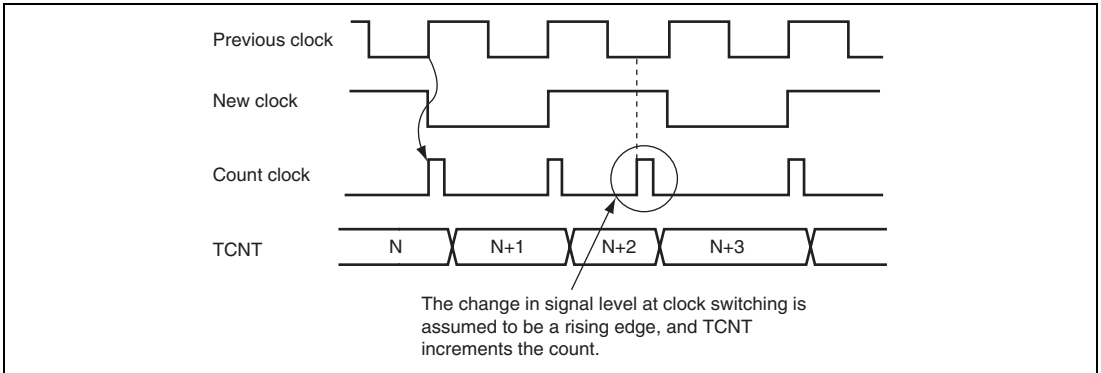

Figure 13.25 Internal Clock Switching and TCNT Operation
3. Depending on the timing, TCNT may be incremented by a switch between different internal clock sources. When TCNT is internally clocked, an increment pulse is generated from the rising edge of an internal clock signal, that is divided system clock (ϕ). Therefore, as shown in figure 13.25 the switch is from a low clock signal to a high clock signal, the switchover is seen as a rising edge, causing TCNT to increment.